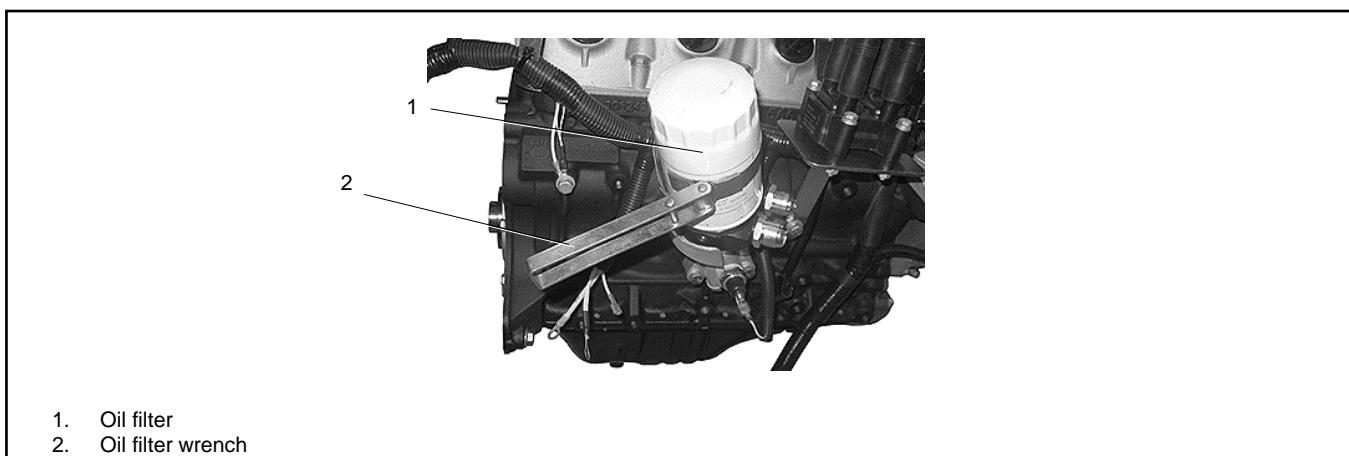

Figure 29 Oil Filter with wrench
4. Using an oil filter wrench, remove the old oil filter. See Figure 29.